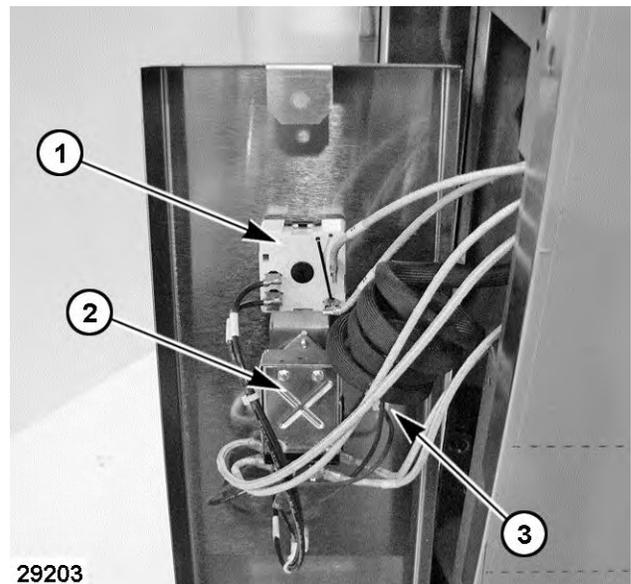

Fig. 3
4. Note wire locations and disconnect from the infinite switch (1, Fig. 3) thermostat (2, Fig. 3) and oven light (3, Fig. 3).